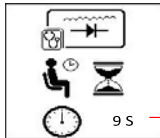

Fig.54
- While the engine is still running, make sure the Air condition is OFF and the headlights (low and high beams) are switched ON. Press  key to continue and the display will change to (Fig.54) as shown below: